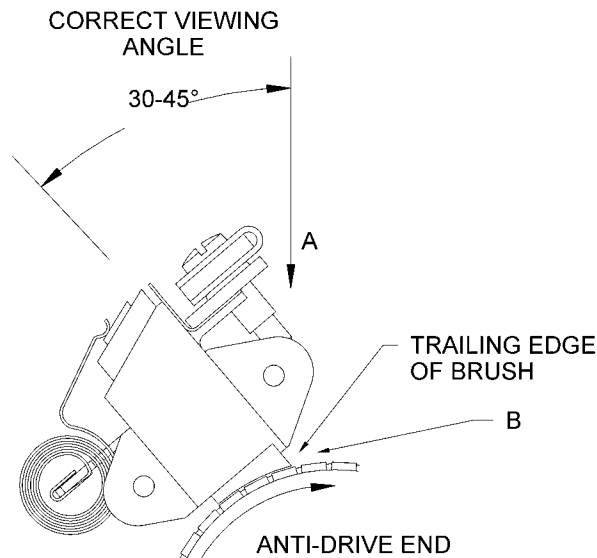

Figure 9 - Correct Viewing Angle
- (3) Residual Voltage Test:
- (4) Overspeed:
- (5) Commutation:
- (a) Operate the starter-generator at 12,000 RPM, 300 Amps. See Figure 9.